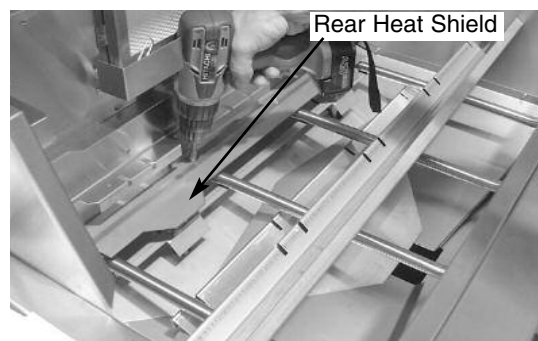

Fig 22
25. Reattach the rear heat shield before attaching the front heat shield to be sure the burners remain over the valves. (See Fig. 22)